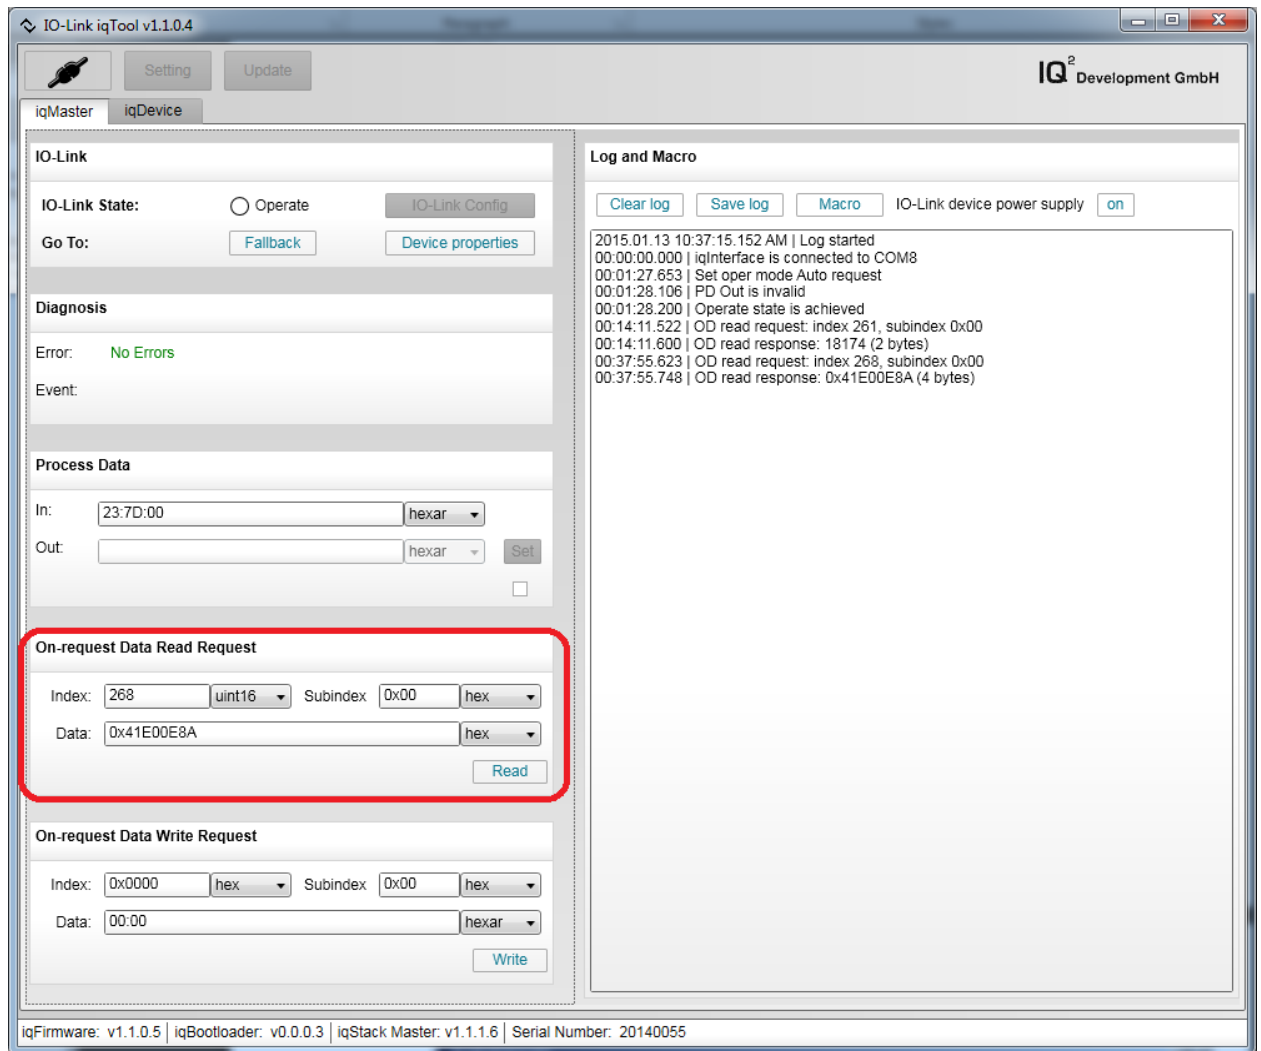

Figure 16. iqTool - On-request Data Read Request group – Index 268.
16. Read the ambient temperature value in degrees C by performing the operations in the **On-request Data Read Request** group below, as shown in Figure 16.